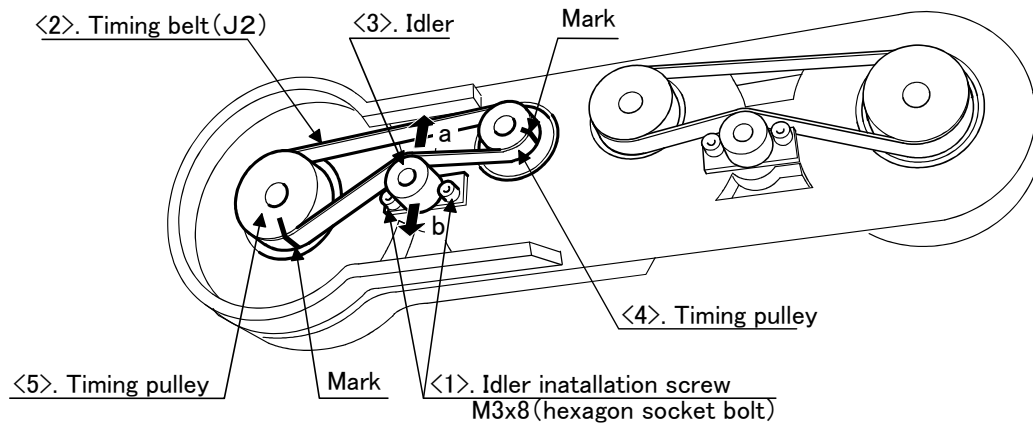

Fig.5-6 : Inspection, maintenance and replacement of J2-axis timing belt
- 1) Fig. 5-6 shows the methods for inspecting, adjusting and replacing the timing belt.
- 5) Make marks on the timing belt <2> and timing pulleys <4> and <5> with a felt-tip pen as shown in Fig. 5-6 so that the engagement of the timing belt <2> and timing pulleys <4> and <5> does not deviate.